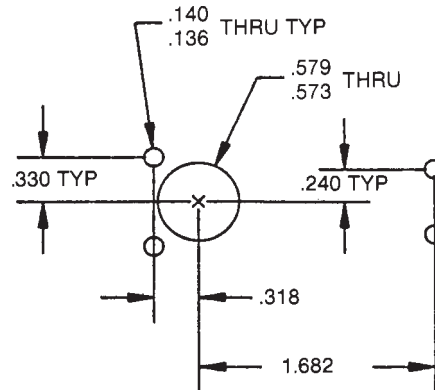

Figure 2: Mounting hole pattern
1. Using the transmitter mounting hole pattern and matching your index cover, locate the correct hole centers with the appropriate transfer punch. Drill each hole with the Vari-Bit and remove all chips and burrs from the holes before proceeding. See Figure 2